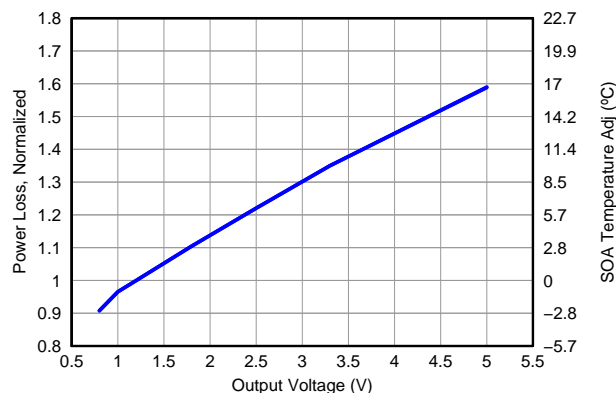

Figure 14. Normalized Power Loss vs Output Voltage
- Normalized Power Loss for output voltage ≈ 0.7 (Figure 14)
- SOA adjustment for output voltage $\approx -1.0^{\circ}C$ (Figure 14)